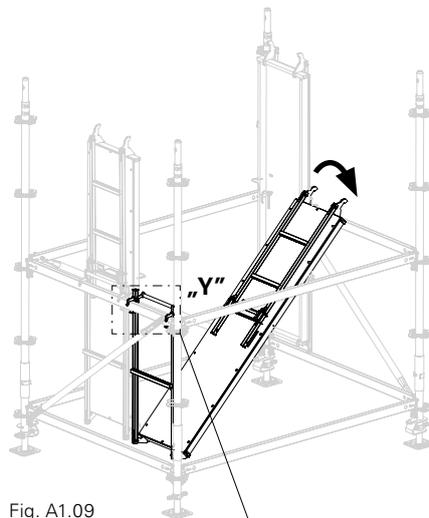

Fig. A1.09
4. 6. Hold deck tightly and fold downwards. (Fig. A1.09 + A1.10)